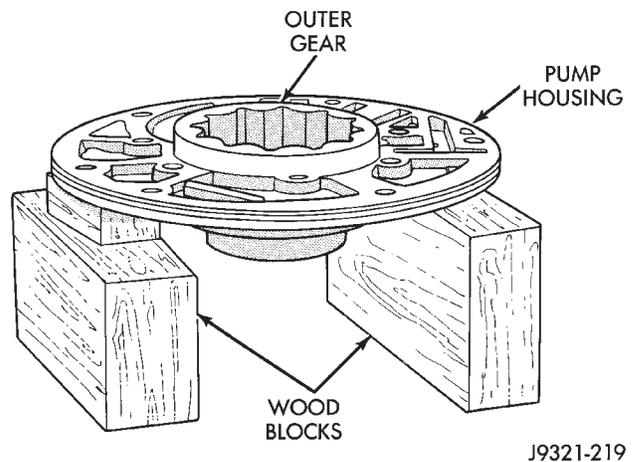

Fig. 171 Supporting Pump And Installing Outer Gear
- (1) Lubricate gear bore in pump housing with transmission fluid.
- (2) Lubricate pump gears with transmission fluid.
- (3) Support pump housing on wood blocks (Fig. 171).
- (4) Install outer gear in pump housing (Fig. 171). Gear can be installed either way (it is not a one-way fit).